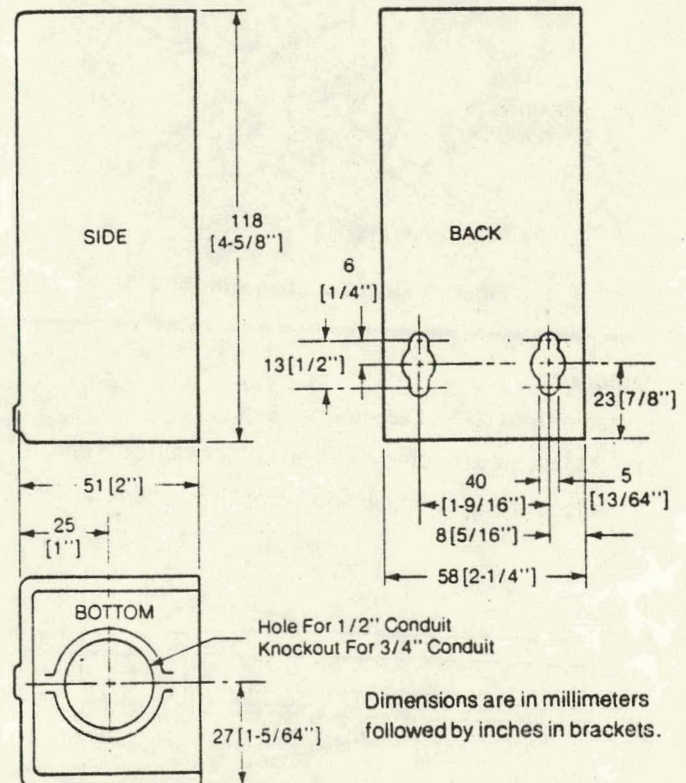

Figure 1. Case Dimensions
Locate the device allowing proper distance to the bulb location. The case can be mounted in any position. Refer to Figure 1 for case dimensions.
1. Remove cover and provide 2 holes for #10 round head screws using the housing as the template or by using the dimensions shown in Figure 1.